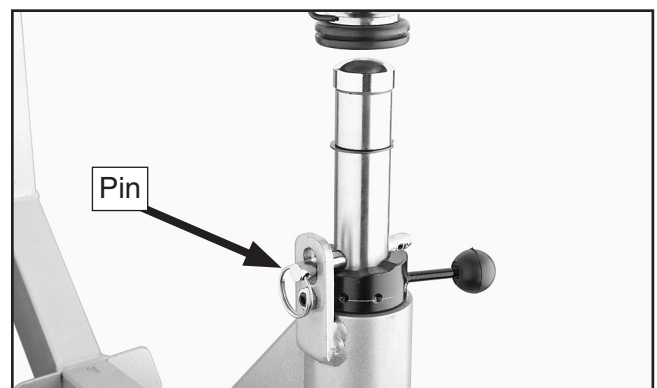

Figure 10. Pin inserted through bracket and housing to position the die upward.
4. Raise the die housing up, and insert the pin as shown in **Figure 10** to position the die near the hammer.